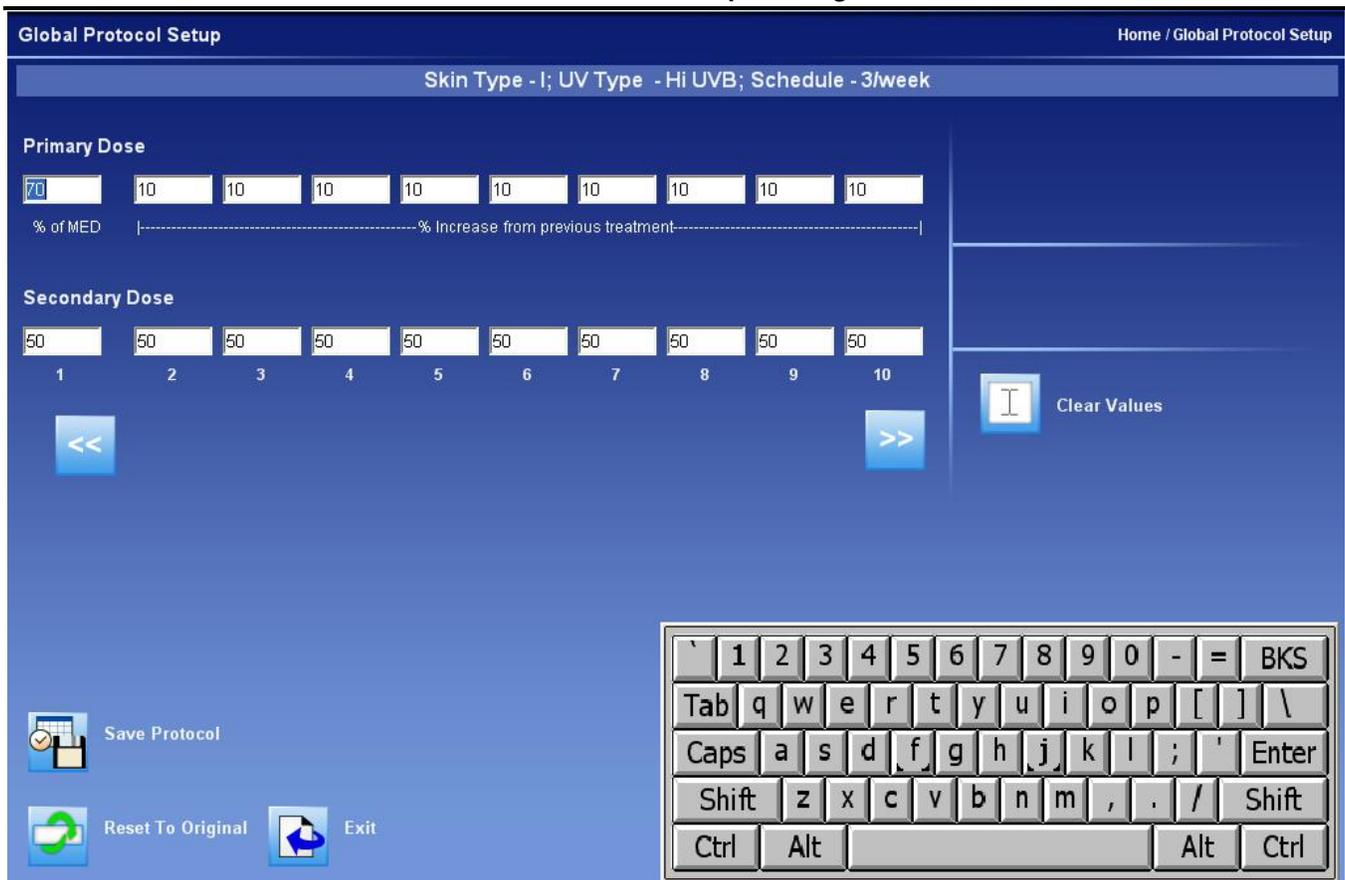
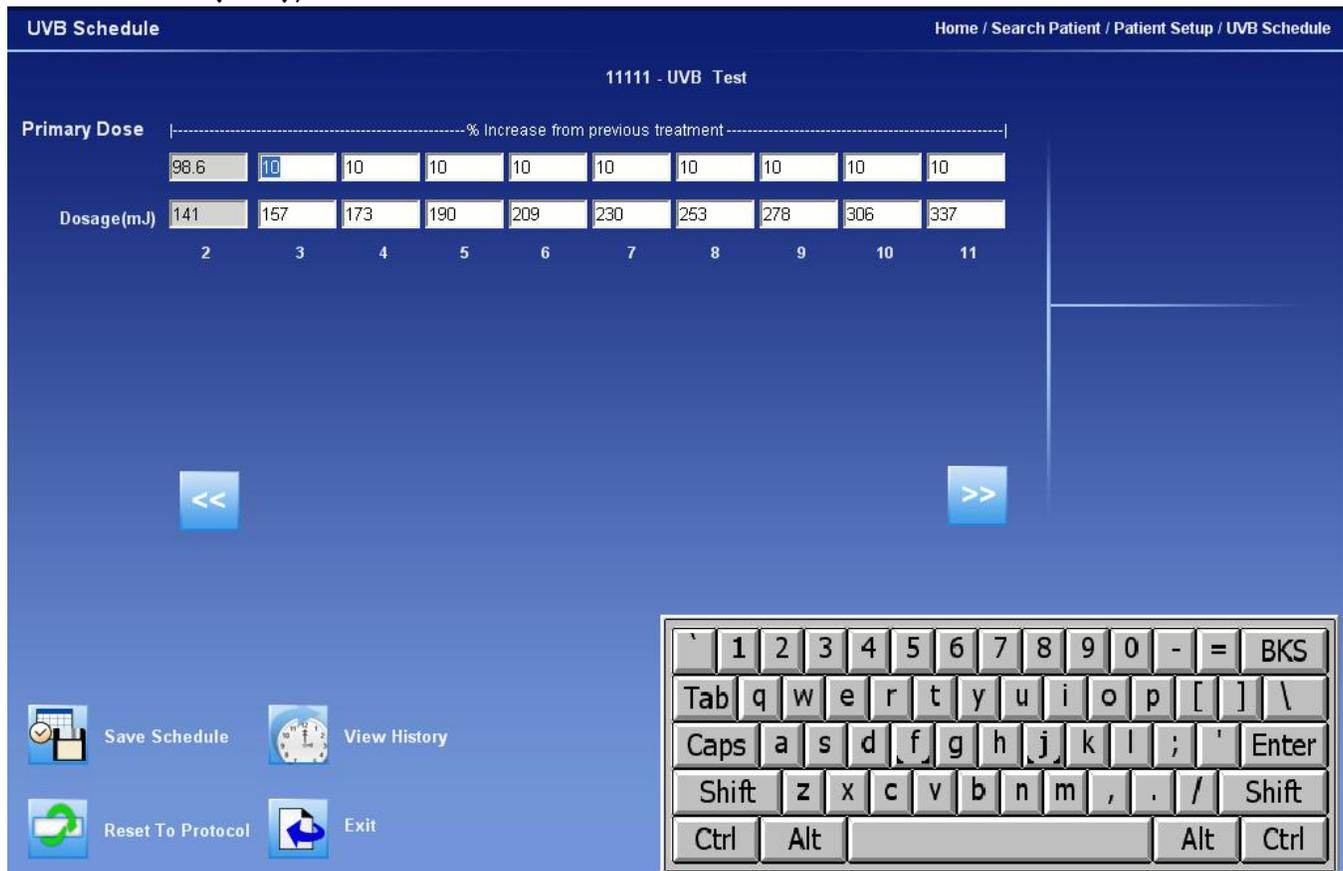

Figure 23 – Global Protocol Setup Edit Screen
Figure 24 – Patient Protocol Setup Edit Screen (UVB)
4. To proceed to the Global Protocol Setup edit screen (See **Figure 23 – Global Protocol Setup Edit Screen**), tap the **OK** button once, or to cancel and exit to the Main Menu screen, tap the **Cancel** button once.
4. Tap once on the View/Edit Schedule button once. While the data is obtained, the “Retrieving Schedule” message will be displayed. When the schedule is located, the message will disappear, and the applicable Patient Protocol Setup edit screen will be displayed (See **Figure 23 – Global Protocol Setup Edit Screen & Figure 24 – Patient Protocol Setup Edit Screen (UVB)**).